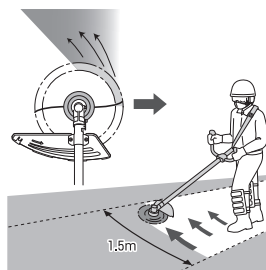

Fig. 14
- Cut grass from left to right. The cut grass will be discharged away from the body, minimizing transfer to your clothes. (Fig. 14)